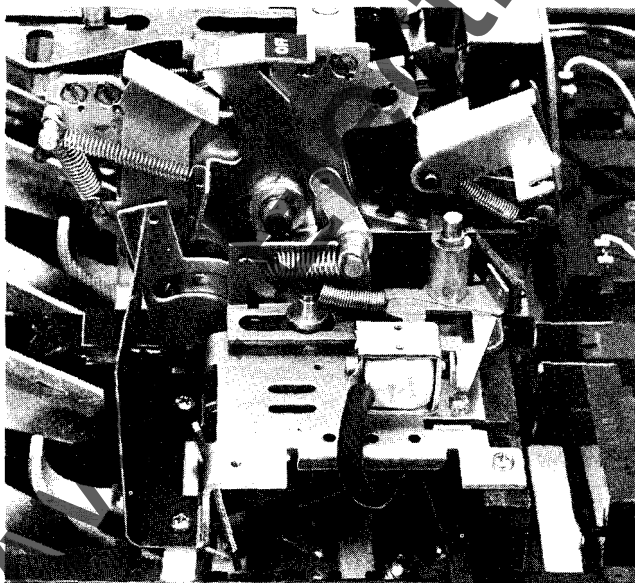
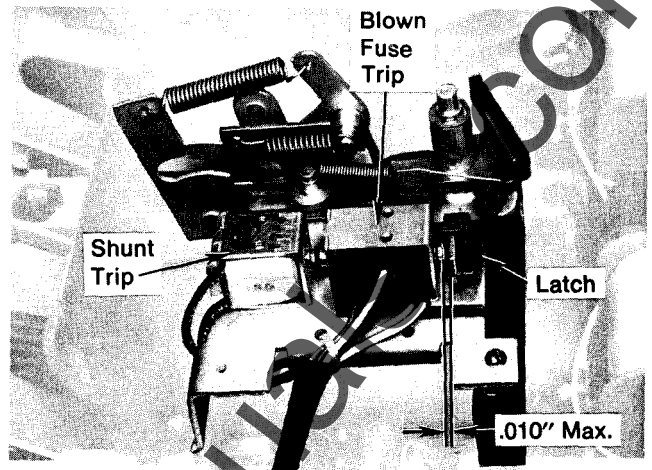

Fig. 7.
Fig. 8.
1. Remove three (3) mounting plate retaining screws and isolation barrier, See Fig. 7.
1. Assemble coil to mounting plate as shown in Fig. 7. If the mounting plate is also to be equipped with a blown-fuse trip device, mount the shunt trip as shown in Fig. 8.
4. Remove knockouts as required in side of base. Each knockout will accommodate up to three bundles of wires (Fig. 7). Remove all sharp edges with a file.